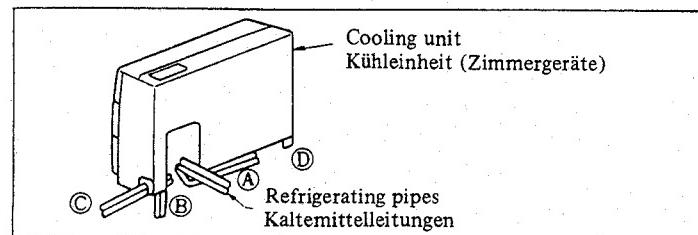

Fig. 1
The connecting for the refrigerating pipes is able to the four different directions, on backside ①, bottom side ②, right side ③, or left side ④ as shown in Fig. 1.